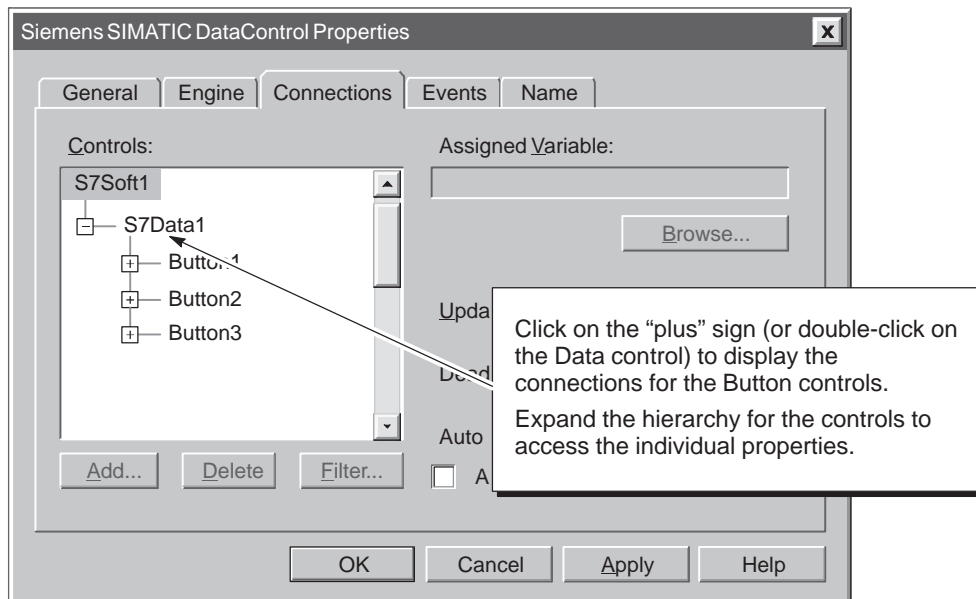

Figure 3-17 Accessing the Connections for the SIMATIC Controls
2. If the controls and properties are not already displayed, expand the hierarchy for S7Data1. See Figure 3-17.